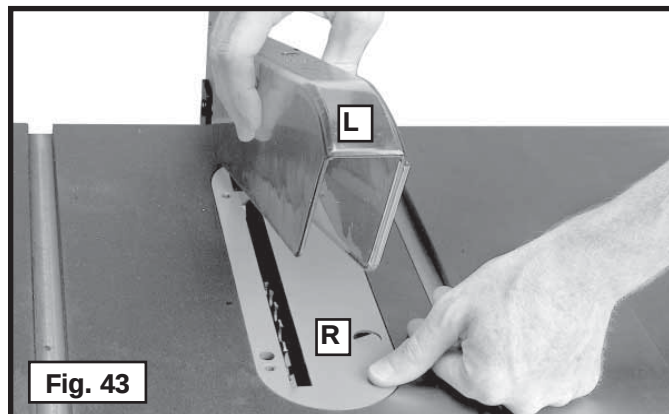

Fig. 43
11. Lower the saw blade and install the table insert (P) Fig. 43 in the saw table.